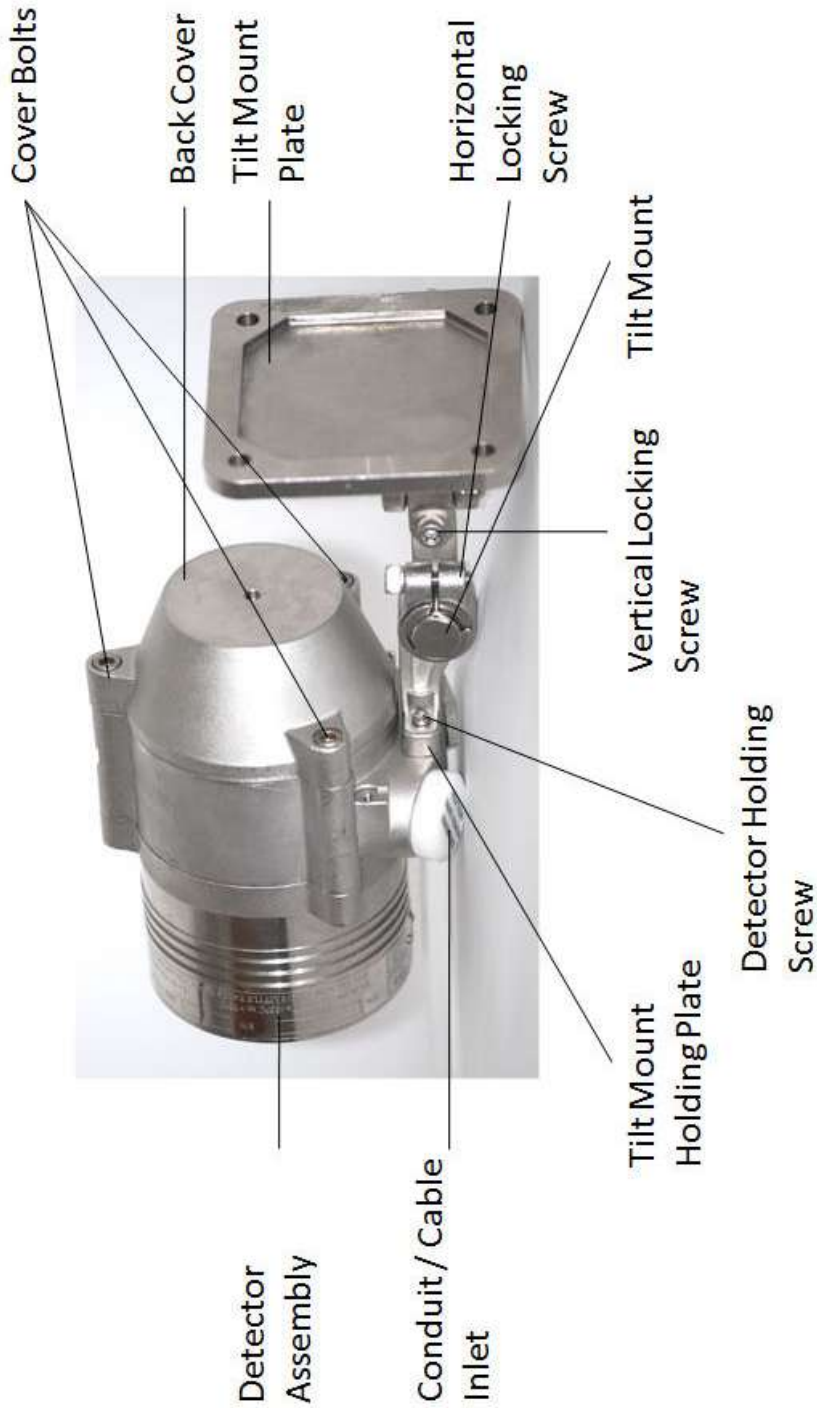

Figure 3: Detector with Tilt Mount
Figure 3 shows the Detector mounted on the Tilt Mount.
- 9 Place and secure the detector’s back cover by screwing the four (4) socket-head-screws in the Cover Bolts (Figure 3).